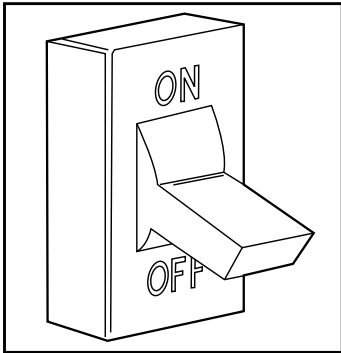

Fig. 9 – Turn Off Electrical Supply
3. Turn OFF electrical supply to the furnace. See Fig. 9.